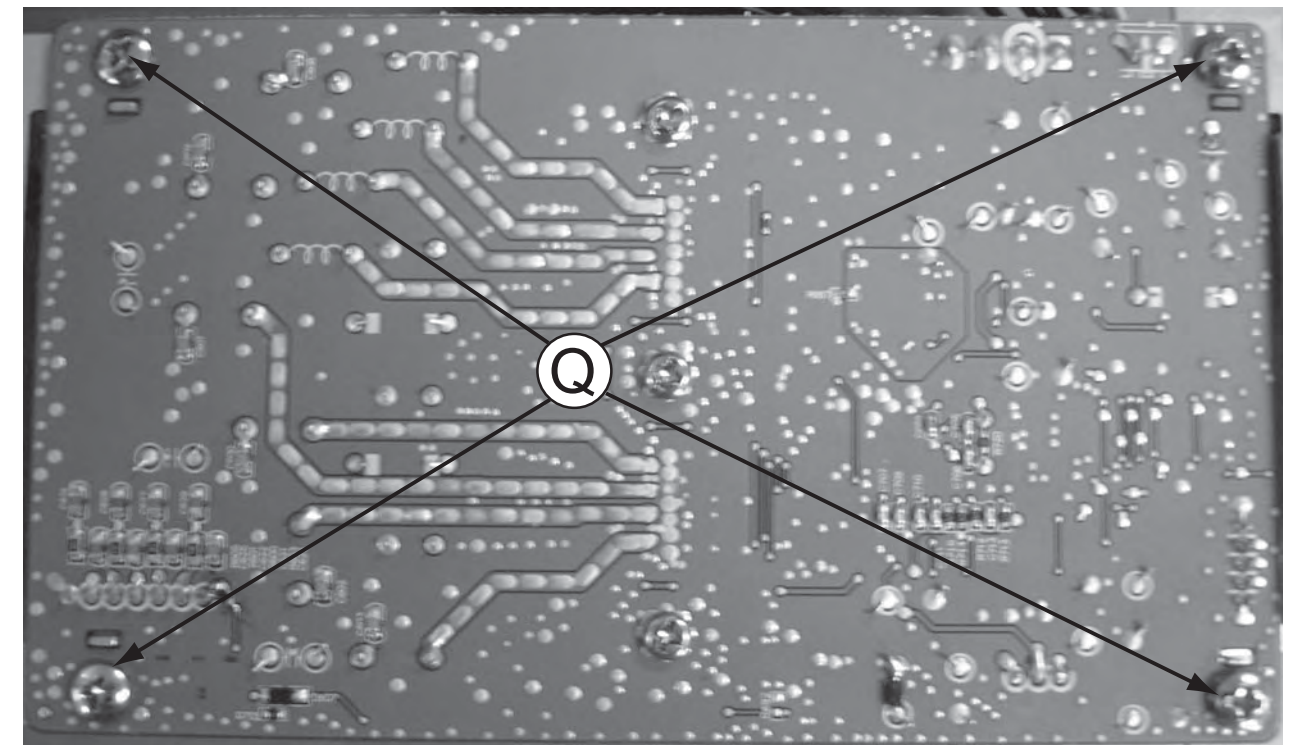

Figure 18
- 1) Loosen 4 screws "Q" on the bottom of AMP PCB as shown in figure 18.